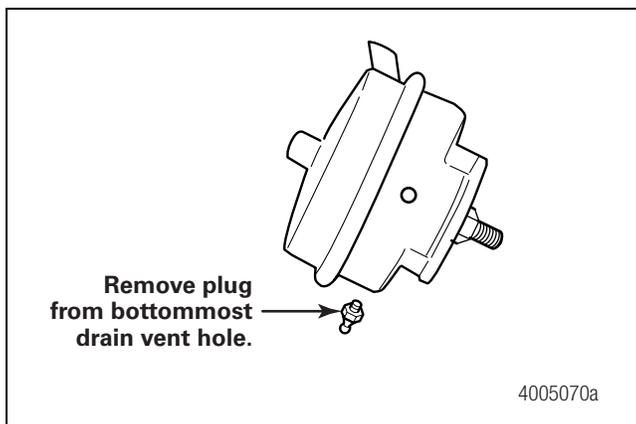
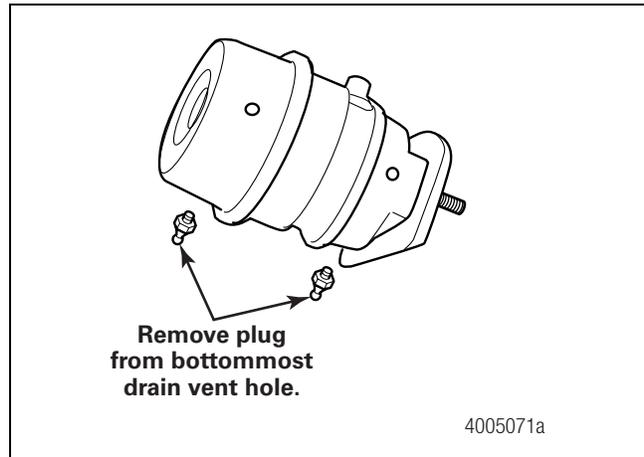

Figure 7.8
Figure 7.9
- If breather plugs are supplied, locate the bottommost breather plug and remove it from the chamber. Figure 7.8 and Figure 7.9.